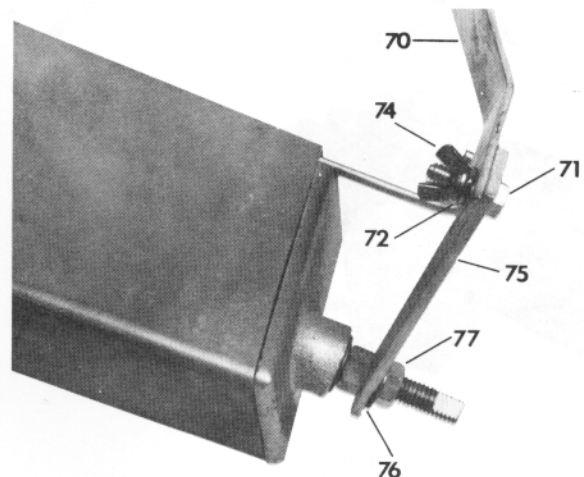

Fig. 2
- B. Assemble rear ring support (75) to mainspring adjusting bolt. Assemble and tighten rear ring support lock washer (76) and nut (77). Assemble rear perimeter ring (70) to rear ring support with perimeter ring bolt (71), lock washer (72) and wing nut (74) (see Fig. 2).